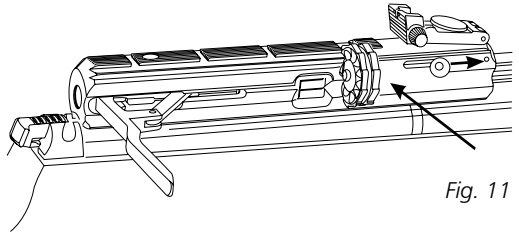

Fig. 11
4. Push the magazine release bolt forward and insert the loaded magazine. Pull back on the magazine release bolt so it locks. (Fig. 11) If necessary, rotate the magazine counterclockwise until its movement is halted by the magazine stop.